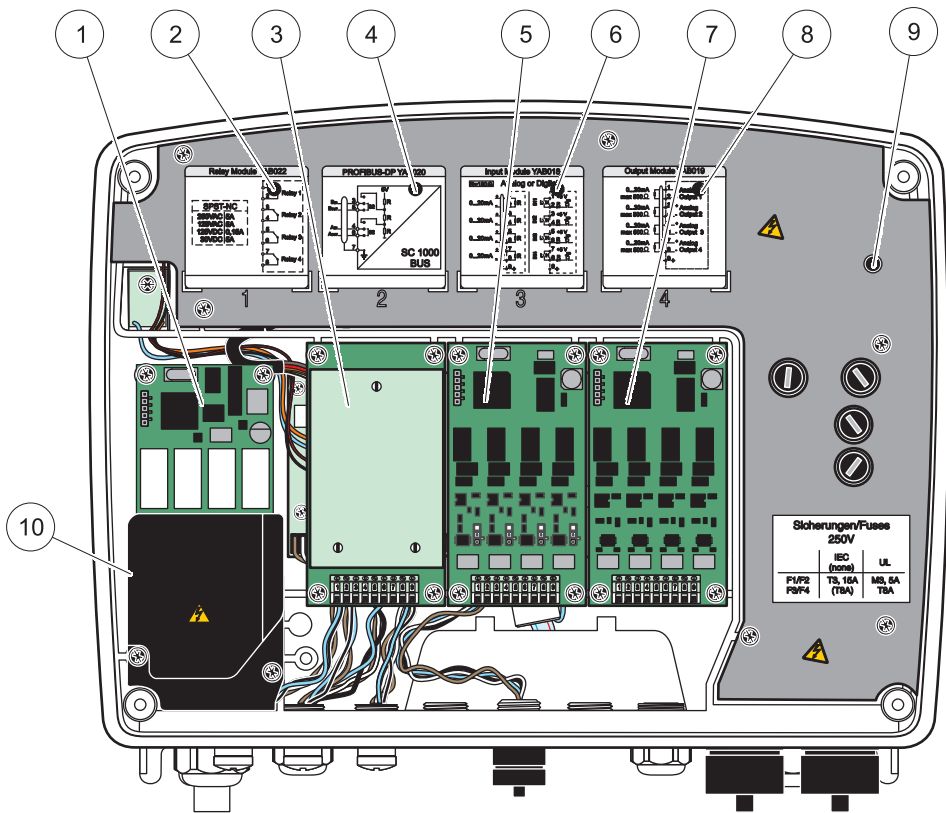

Figure 18 Expansion card ports
3. Connect the relay card to the appropriate slot (Figure 18). Use a magnetic screwdriver to secure the four phillips-head screws to the card (it is easier to connect the cards with the module in its normal vertical mounted position, rather than laid horizontally on a bench).
6. Write the serial number from the rating plate on the supplied sticker and attach it to the main high voltage barrier (Figure 18). This serial number is the same internal address of the card on the network.
2. Connect the input card to the appropriate slot (Figure 18). Use a magnetic screwdriver to secure the four screws to the card.
5. Write the serial number from the rating plate on the supplied sticker and attach it to the main high voltage barrier (Figure 18).
2. Connect the output card to the appropriate slot (Figure 18). Use a magnetic screwdriver to secure the four screws to the card.